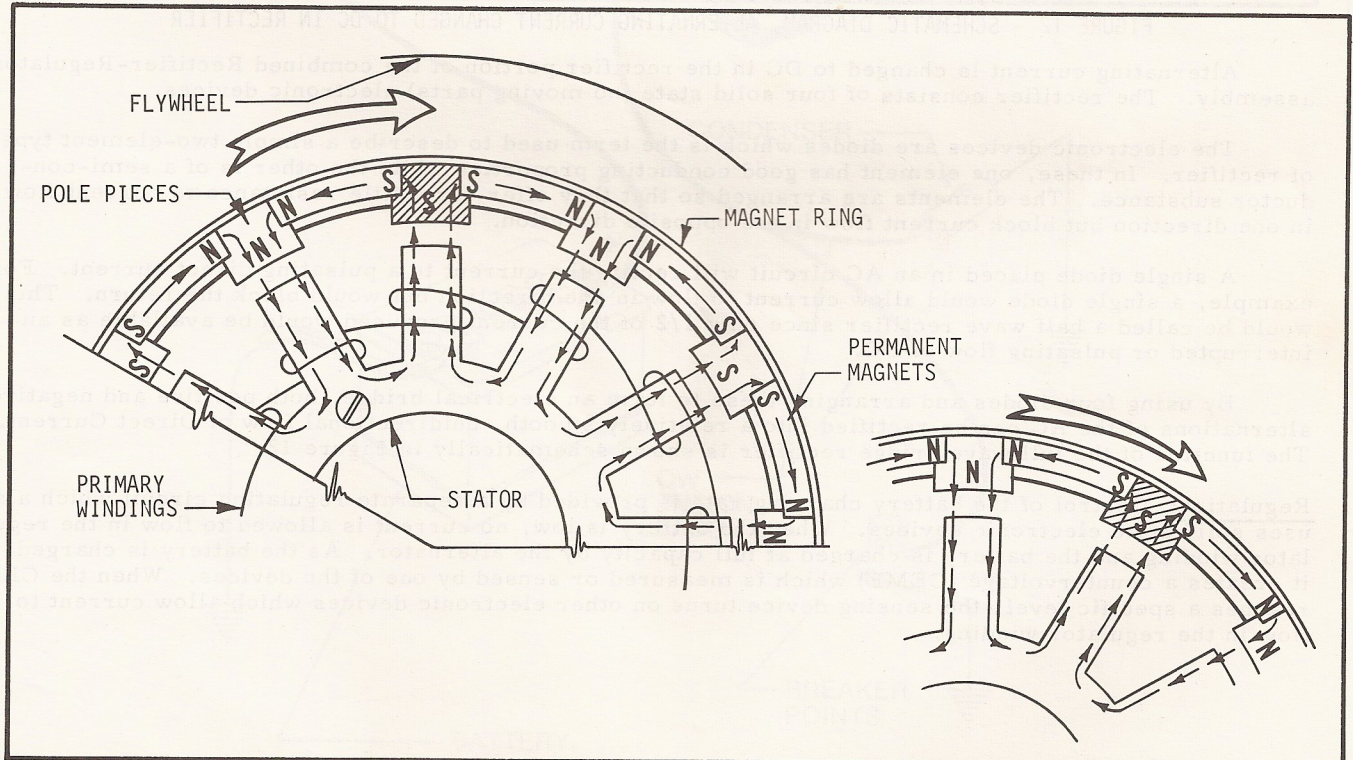

FIGURE 11 - SCHEMATIC DIAGRAM, ALTERNATING CURRENT PRODUCED IN STATOR WINDINGS
Operation: The magnet ring has a specific number of permanent magnets imbedded in a cast ring. These high strength ceramic magnets are arranged between pole pieces, so that there is an equal number of north and south magnetic poles as illustrated in Figure 11. The magnet ring is permanently fitted to the inside rim of the engine flywheel so that it can be rotated around the alternator stator which is assembled in stationary position.
Whenever magnetic lines of force cut a conductor which is part of a complete electrical circuit, an electrical current will be induced in the conductor. To explain how alternating current is induced in the primary windings, refer to the coil shown in the 12 o'clock position in Figure 11. In this illustration, a south magnetic pole piece is just above the reference coil. When in this position, the magnetic lines of force move out of the adjacent north pole pieces, downward through the adjacent core posts, then upward through our reference coil to return to the magnets through the south magnetic pole piece. The direction of flux is important as it also determines the direction that the current flows through the windings. For example, when a north magnetic pole piece rotates above our reference coil, the flux direction is opposite of what it was when the south pole was in the same position. Since the flux direction is reversed, the direction of current through the primary windings is also reversed. This current continually changes direction, since the pole pieces are alternately north and south. The Alternating Current (AC) thus produced must be changed into Direct Current (DC) to be used in the battery and ignition system.